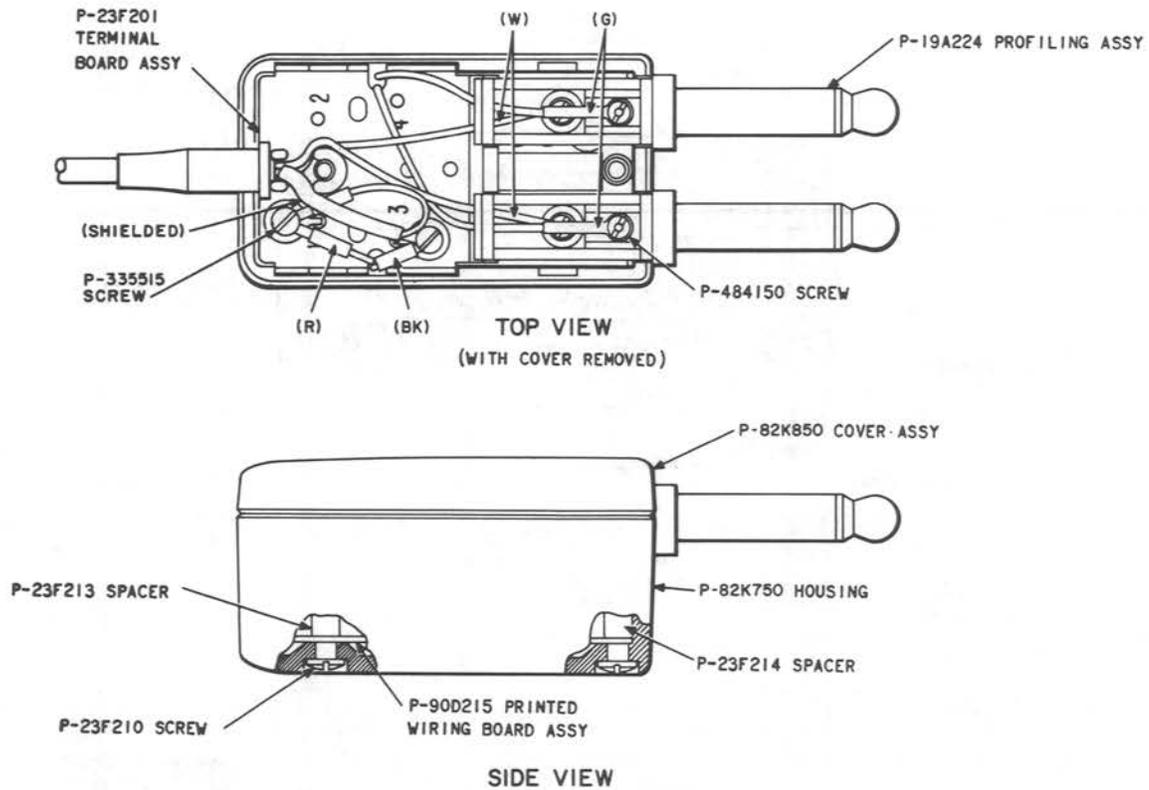

Fig. 6—280A-50 Amplifier
4.07 280A-50 Amplifier (Fig. 6): To replace the amplifier, proceed as follows:
4.08 Profiling Assembly Associated with 280A-50 Amplifier (Fig. 6): Remove the profiling assembly as follows:
4.09 Printed Wiring Board Associated With 280A-50 Amplifier (Fig. 6): Remove the printed wiring board as follows: